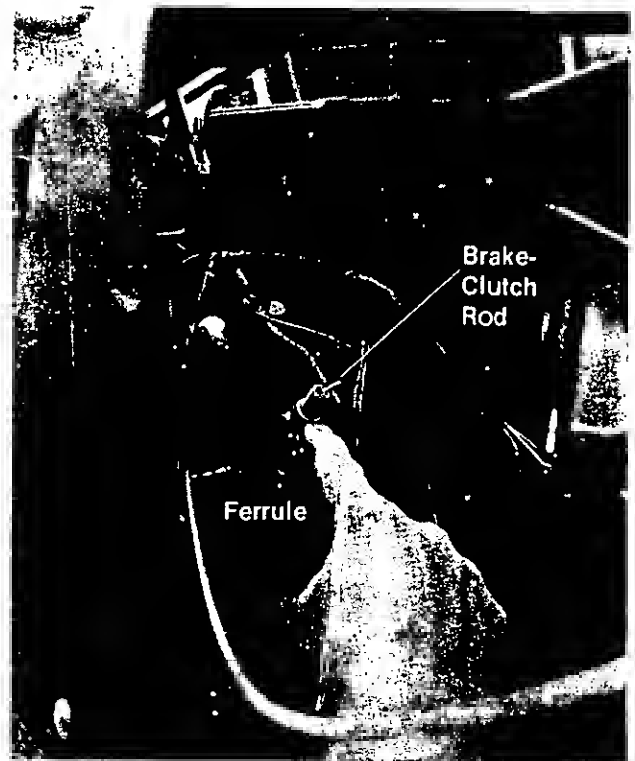

FIGURE 12.
4. Tighten the nut on the brake clutch rod located next to the steering column until it just touches the ferrule. See figure 12.